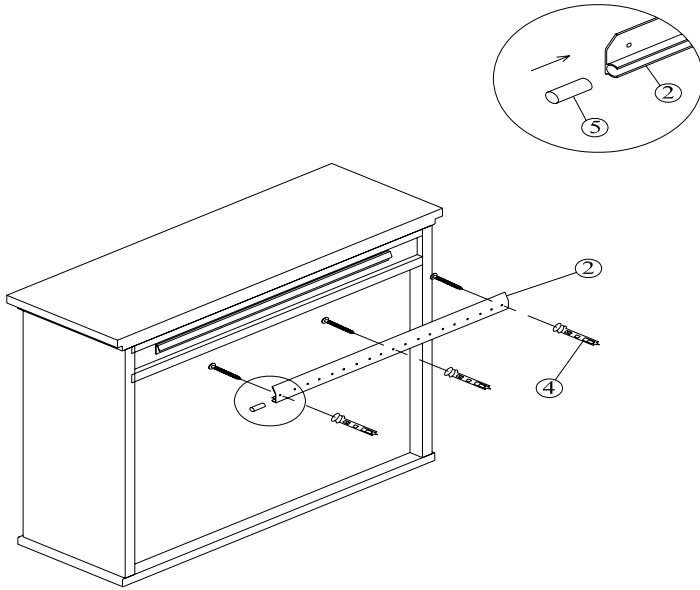

Fig 2
1. On the back of your product is one affixed product-mounting bracket. Figure 2